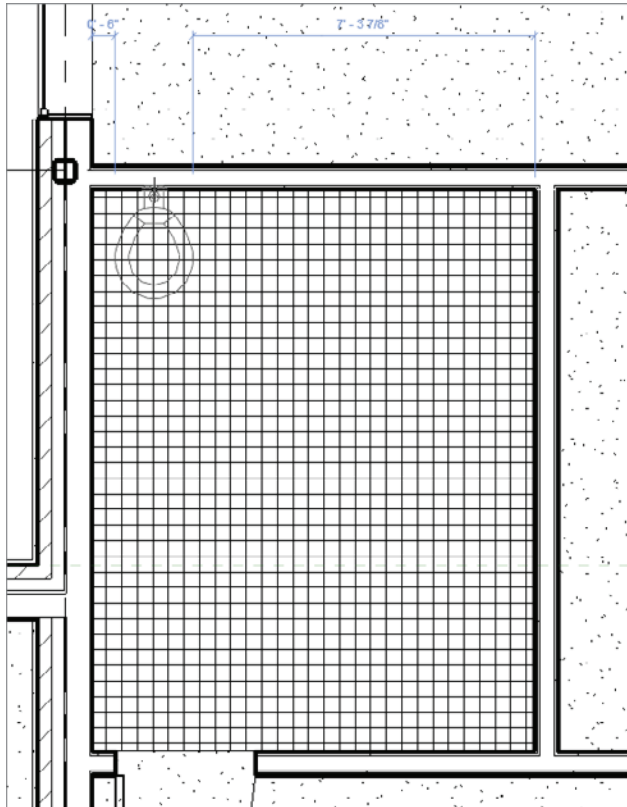

FIGURE 9.39 Placing the 19" (480mm) Seat Height toilet 6" (150mm) from the west wall, along the north wall
10. Place it along the north wall approximately 6" (150mm) from the west wall, as shown in Figure 9.39.